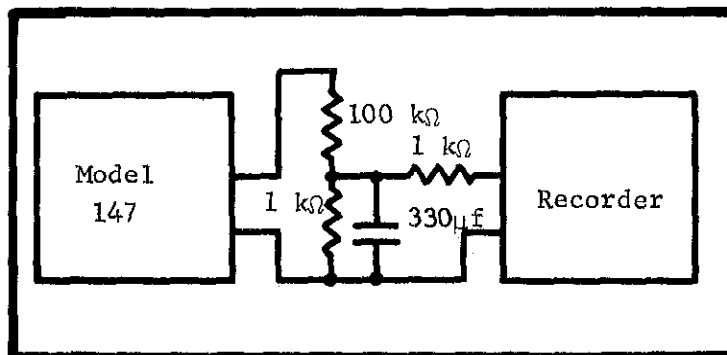

FIGURE 11. 8-cps Filter Circuit for Recorder Output. If the 8-cps beat disturbs the measurements, this circuit will reduce the beat 10:1.
e. The 8-cps beat will be more apparent at the output terminals, since the meter is filtered. To minimize the beat, use the filter circuit shown in Figure 11. This divides the Null Detector's 1-volt output at full scale to 10 millivolts. The 8-cps beat is reduced by a factor of 10:1. If the 330 microfarads is objectionably large, increase the resistor sizes by 10 times and use a 33-microfarad capacitor. Since the recorder output